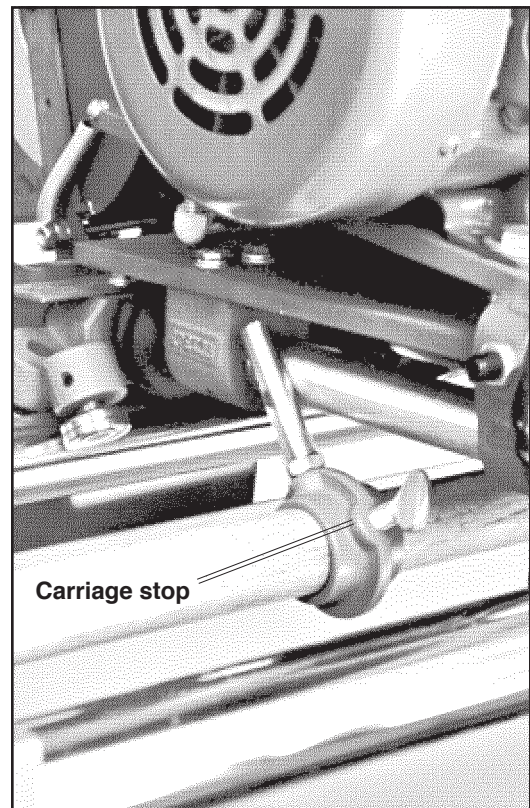

Figure 2.3 Carriage stops
2.1.4 Loosen the thumbscrews on the carriage travel stops as shown in Figure 2.3 and allow them to swing out